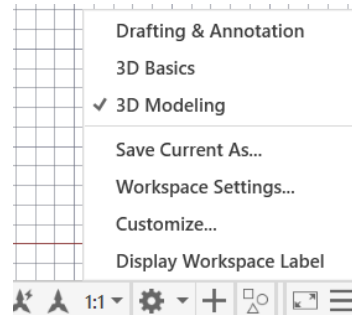

Fig. 9.2
- 3 For creating 3D drawings, go to the Status Bar and click on Workspace Switching as shown in Fig 9.2. From the available options, select **3D modeling**.